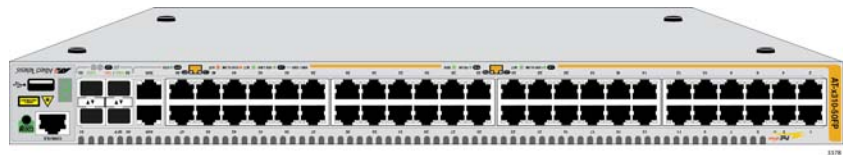

Figure 23. Turning the Switch Upside Down
1. Place the unit upside down on a level, secure surface. Refer to Figure 23.